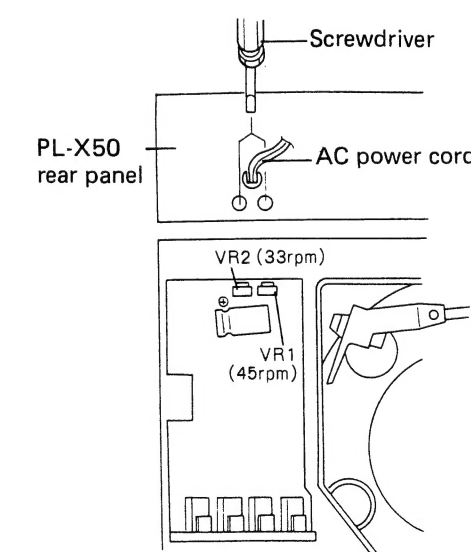

Fig. 12-5 Turntable motor speed adjustment
2. Adjust the speed adjustment VR on the rear panel of the unit. When adjusting this VR, if contact is made between the bonnet and the VR, rotational speed will be affected. When using a metal screwdriver to make this adjustment, always wrap tape around the shank of the screwdriver and try not to make contact with the bonnet (Fig. 12-5).